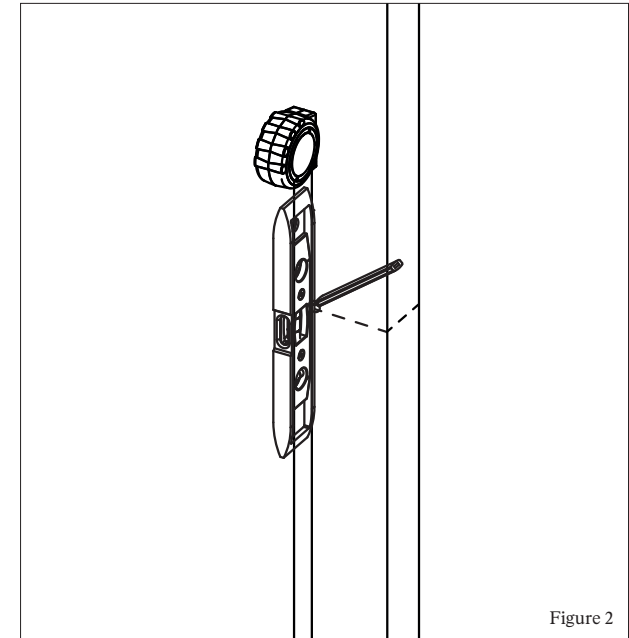

Figure 2
- 1.3 Using a spirit level, mark the door at the desired lever height, continuing the line from the front of the door, around the edge and onto the back of the door. (Figure 2)